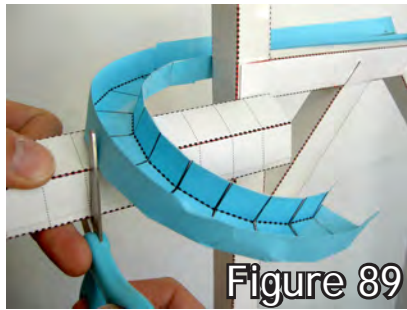

Figure 89
2. Take a completed beam and cut it to length along a dotted line. Make sure to leave enough of an overlap to wrap around the column. (fig. 89)